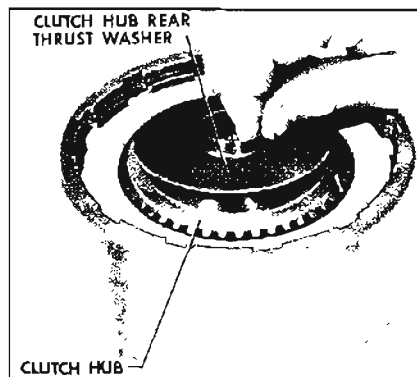

Figure 5-214
3. Remove clutch hub rear thrust washer. See Figure 5-214.